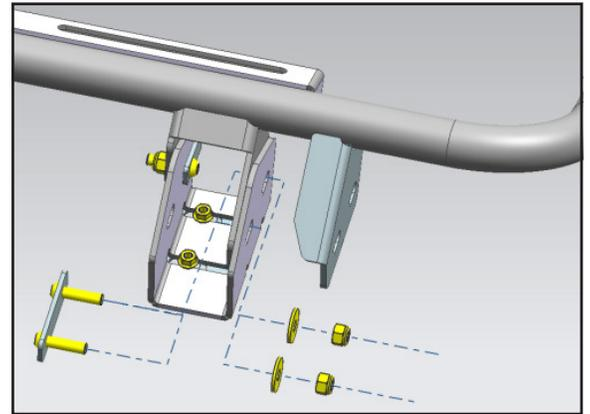
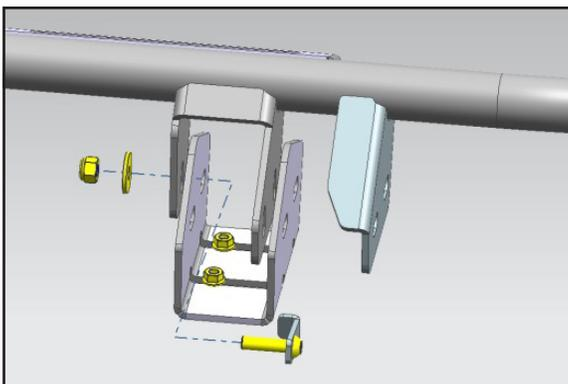

FIGURE 7
FIGURE 6
3. Select the Front Crossbar. Attach the inner mounting plate on the Crossbar to the inner facing side of the driver/left Bracket using the included (1) Single Bolt Plate, (1) 8mm x 24mm Large Flat Washers and (1) 8mm Nylon Lock Nut, **(FIGURE 6)**. Attach the outer mounting plate on the Crossbar to the inside of the Bracket with (1) 8mm x 30mm Double Bolt Plate, (2) 8mm Lock Washers, (2) 8mm x 24mm Large Flat Washers and (2) 8mm Nylon Lock Nuts, **(FIGURE 7)**. Snug but do not fully tighten hardware at this time. Repeat this **Step** to attach the passenger/right side of the Crossbar to the Mounting Bracket.